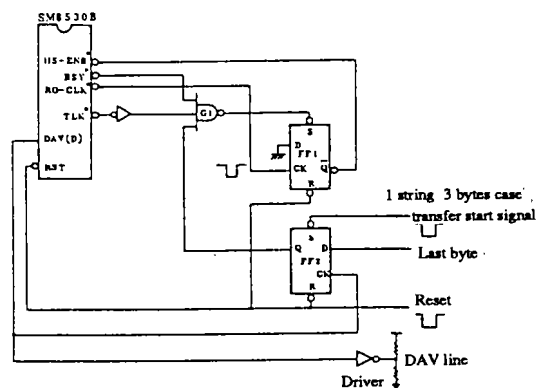

Figure 3 Talker circuit example (I)
- (1) When IFC is input
- (2) When RST* is input
- (3) When specified as the listener by MLA
- (4) When the listen-only mode is specified by pins 34 and 35
- (5) When OTA is input
- Figures 3 to 6 show examples of the data transmission circuits and timing. Figures 3 and 4 show an example of sending the HS-ENB* signal byte by byte. Figures 5 and 6 show an example of sending several bytes in succession.
- (2) In the case of the listener